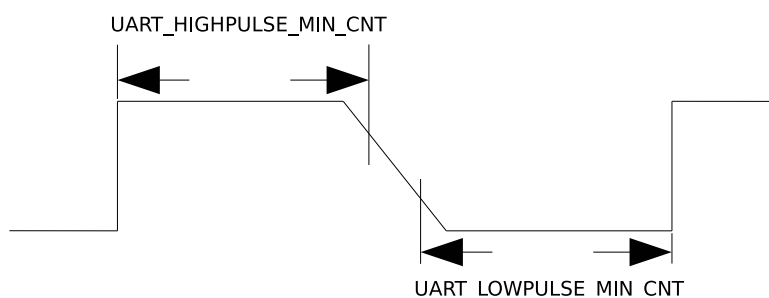

Figure 25.4-2. The Timing Diagram of Weak UART Signals Along Negative Edges
Automatic baud rate detection (Autobaud) on UARTs is enabled by setting `UART_AUTOBAUD_EN`. The Baudrate_Detect module shown in Figure 25.4-2 filters any noise whose pulse width is shorter than `UART_GLITCH_FILT`.
2. If UART signals are weak along negative edges as shown in Figure 25.4-2, which leads to an inaccurate average of `UART_LOWPULSE_MIN_CNT` and `UART_HIGHPULSE_MIN_CNT`, use `UART_POSEDGE_MIN_CNT` to determine the transmitter's baud rate as follows: